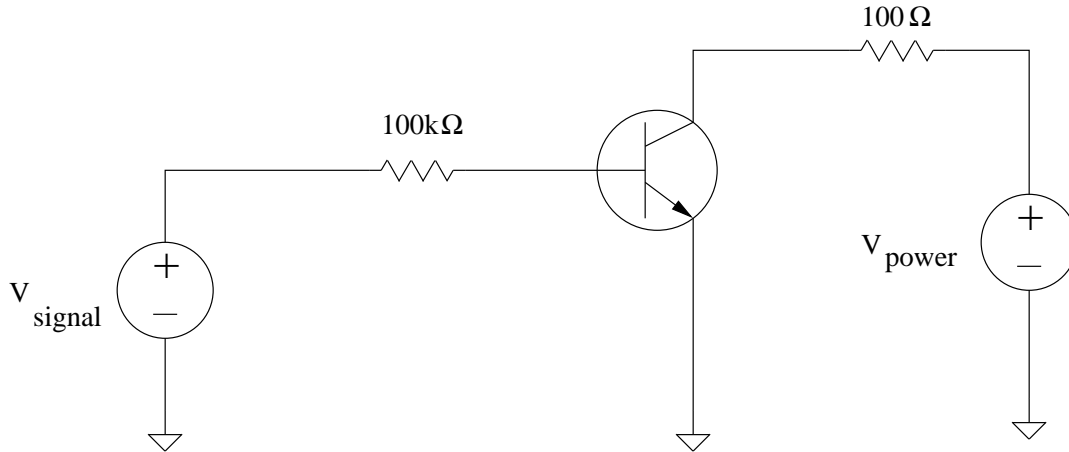

Figure 17: NPN transistor circuit with two sources
2. Consider the transistor circuit given in Figure 17. Assuming the critical transistor parameters to have values of $\beta=50$, $V_{BE}=0.7\ \text{V}$, and $V_{CEsat} = 0.2V$, "solve" the circuit. That is, find the voltage at each node (with respect to ground) and current through each branch (all in terms of V_{signal} and V_{power})
1. Consider the transistor circuit given in Figure 17. Notice that there are two voltage sources, one called the signal and one called the power. This is a classical transistor configuration in that the signal controls the power delivered to the load resistor. That is loosely to say, the higher the signal voltage, the more the power delivered to the $100\ \Omega$ resistor by V_{power} . Of course this depends on the transistor mode, since we know that transistors are nonlinear components.
- (a) Build the circuit of Figure 17. Use the two voltage sources on the power supplies for V_{signal} and V_{power} .